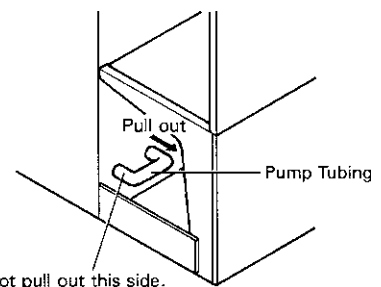

Fig. 5
See Fig. 5.
- 26) Drain the water tank by removing one end of the pump tubing. See Fig. 5.